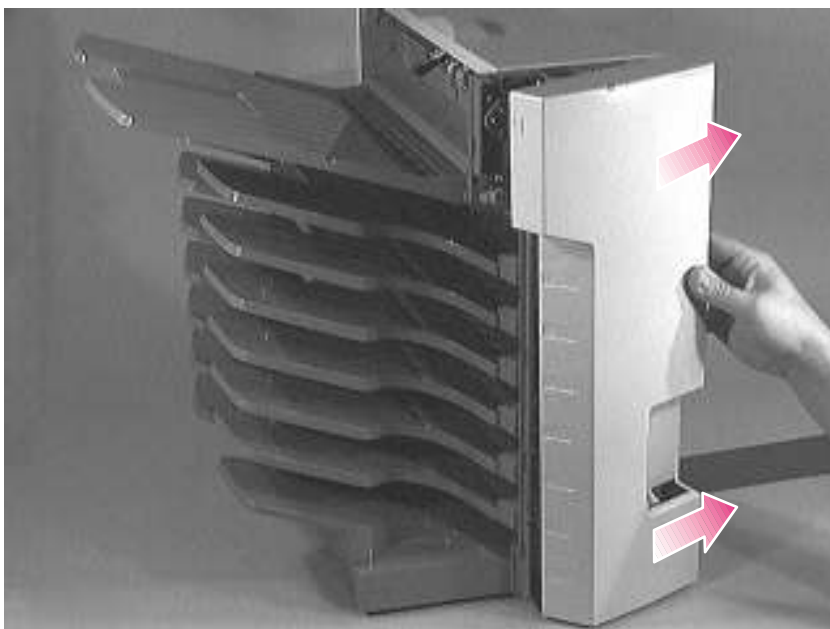

Figure 6-117 Front Cover (3 of 3)
- 4 To clear the handle, rotate the Front Cover to the right, and remove it as shown in figure 6-117.